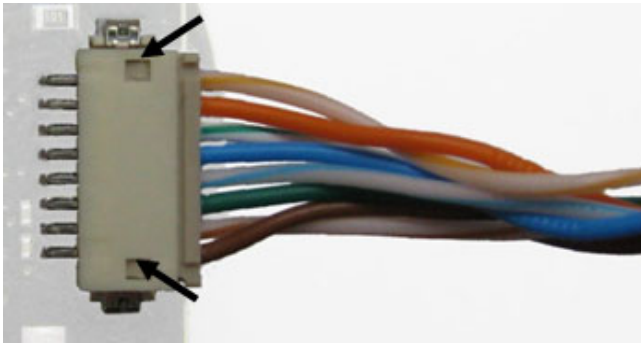

Figure13: phyCAM-S: Hirose type camera connector
- Plug the Hirose side into the matching connector of the camera module. The Hirose plug has two guide grooves on the top side. The socket is protected against misinsertion. Assure that the notches of the socket match to the detents of the plug (see *Figure 13*).